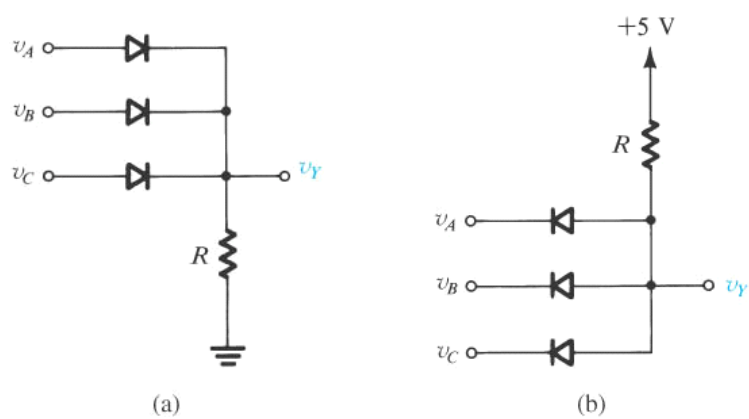

Figure 5.29: Digital logic gates: (a) OR gate; (b) AND gate. (Positive logic system)
- Diodes can also be used for logic gates as shown in Figure 5.29.